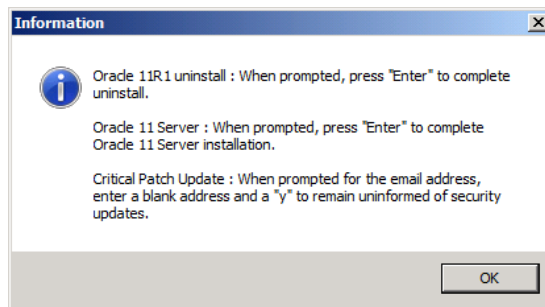

Figure 57. Information Dialog Box
9. An **Information** dialog box (Figure 57) appears explaining the actions to be taken in the following steps. Click **OK** to continue.
Perform the actions described in Figure 57.